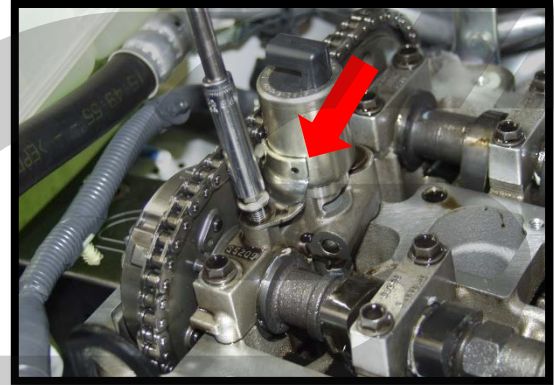

Figure 7b
- f) Replace the oil control valve (Figure 7b). Torque to 8-11.5 nm (71-102 in-lbs).